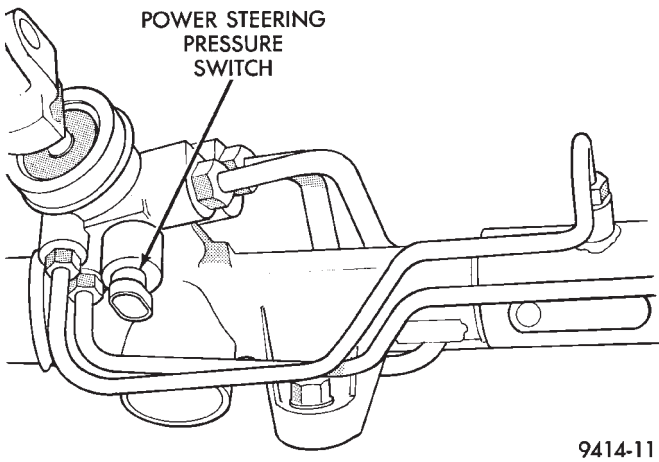

Fig. 60 Power Steering Pressure Switch
(22) Check electrical connection at the power steering pressure switch on the power steering gear housing (Fig. 60).
(23) On vehicles with automatic transaxles, check the electrical connections at the Transmission Range Sensor (TRS).